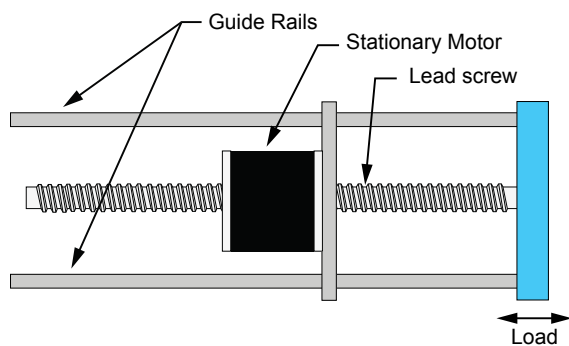

Figure 7
2. **Stationary motor:** The load is attached to the end of the lead screw. The internal nut moves the lead screw back and forth through the motor body. (Figure 7)